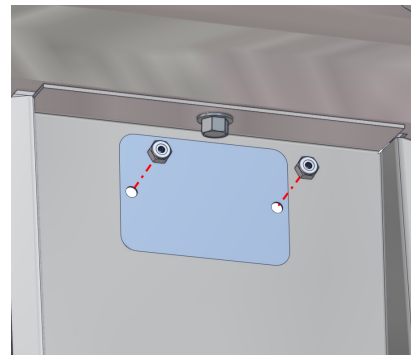

Fig. 7: Place timer cap on hole
5. From the sink back, align with and attach the timer cap plate (table Item #3 - shown in blue) to the inserted screws. Secure the screws with 2 locknuts (Fig. 7 - table item #5).